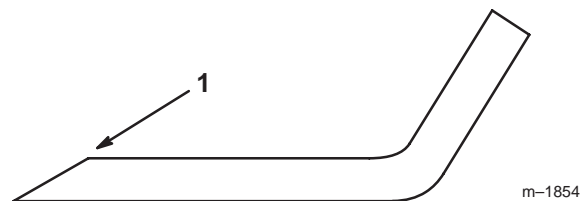

Figure 14
1. Use a file to sharpen the cutting edge at both ends of the blade (Fig. 14). Maintain the original angle. The blade retains its balance if the same amount of material is removed from both cutting edges.